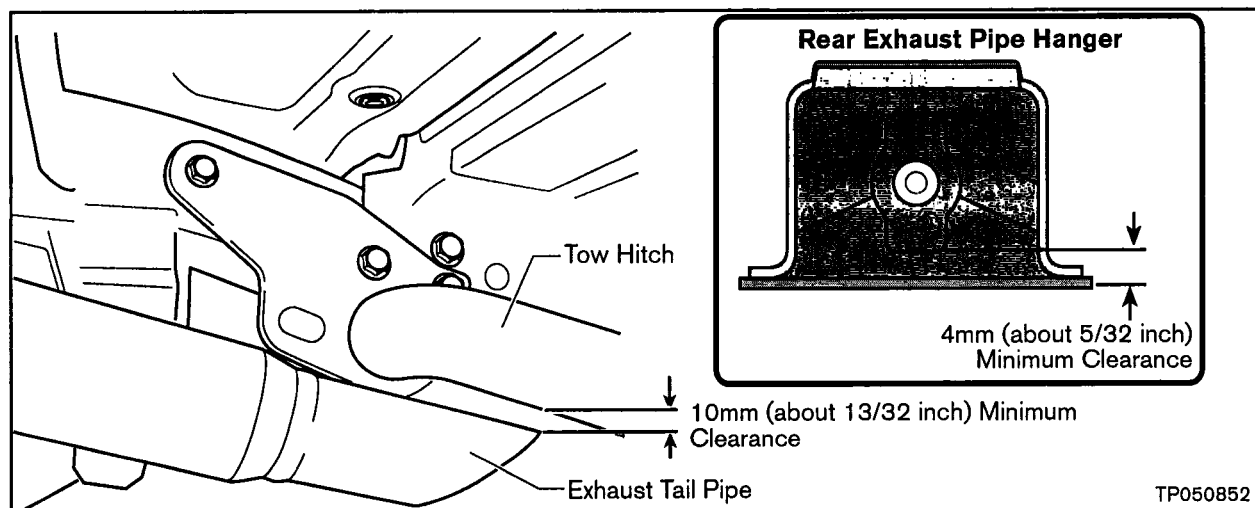

Figure A8
10. Make sure the clearance at the Rear Exhaust Pipe Hanger is at least 4mm (about 5/32 of an inch). See Figure A8.
11. Make sure the clearance between the Exhaust Tail Pipe Tip and the Tow Hitch is at least 10mm (about 13/32 of an inch). See Figure A8.